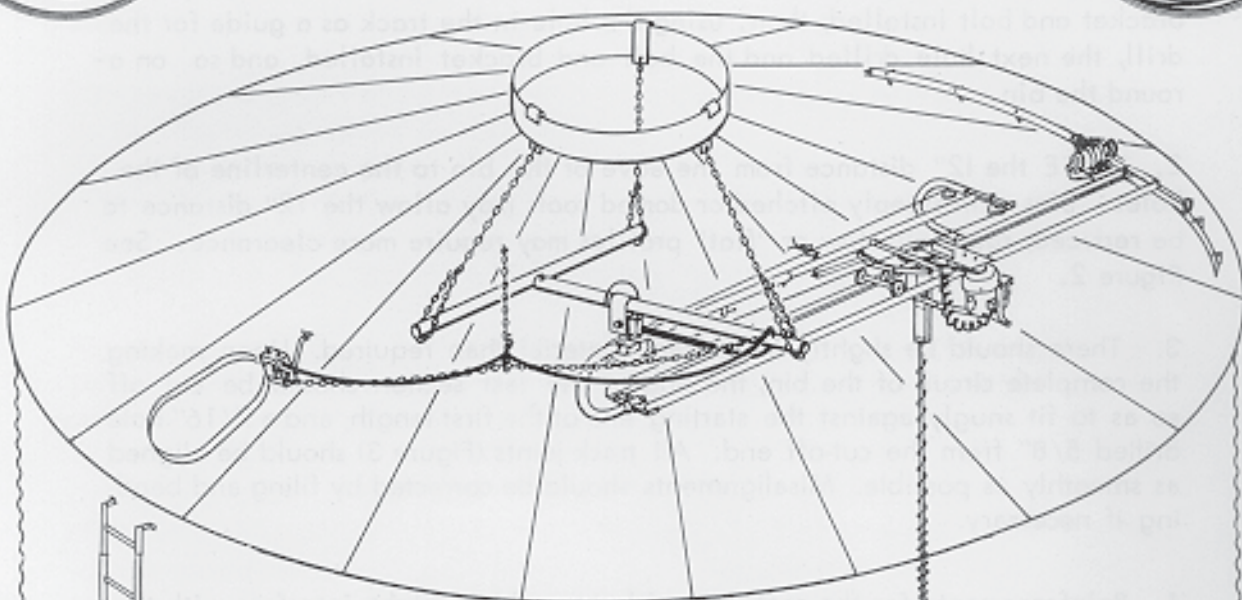

FIG. 1
6. The bin roof is then assembled and the three suspension chains are dropped through the fill hole, with the suspension hooks spaced about equally or 120° apart, around the fill hole collar, as shown. See Figures 1, 4, and 5.